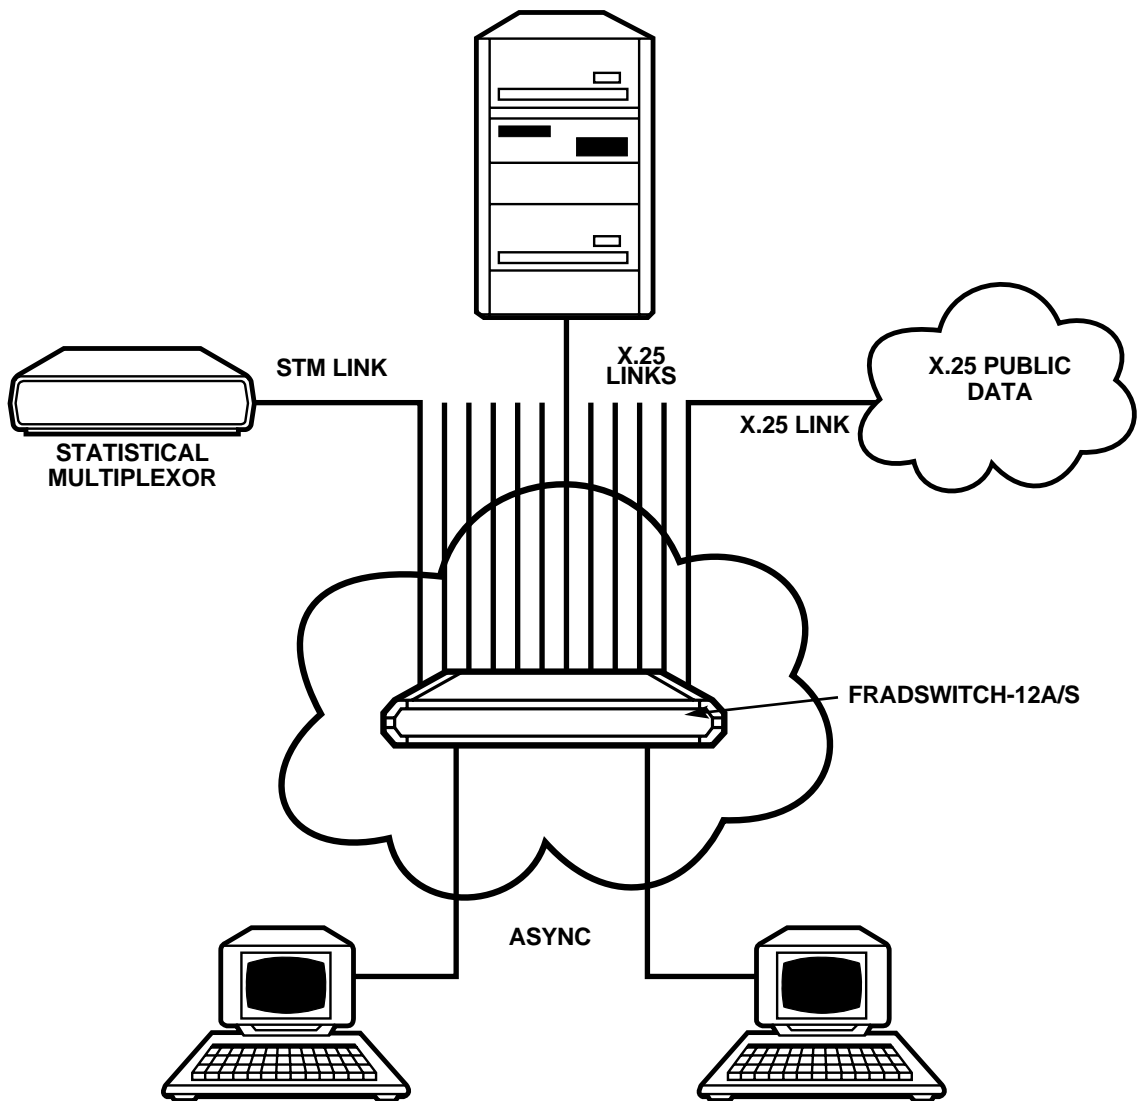

Figure 2-1. Fradswitch-12A/S serving as backbone for private X.25 data networks.
- Backbone for a low-cost private X.25 network with optional connection to the public network. (See **Figure 2-1.**)